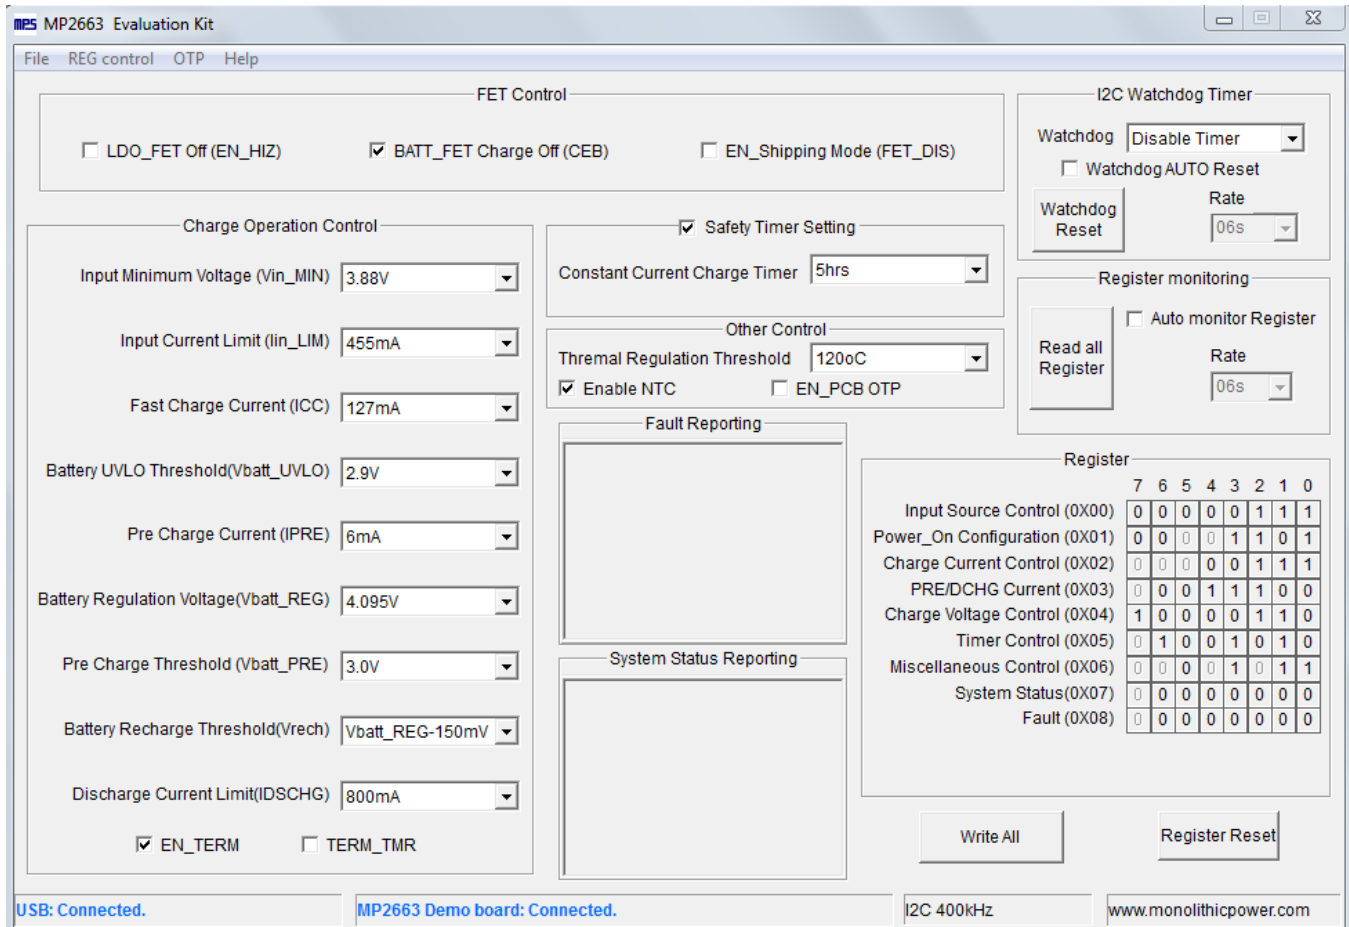

Figure 7: Appearance of USB and MP2663 EVB Board Show Connected
- If connection is successful, both the USB and MP2663 DEMO board statuses are "connected". (See Figure 7).
- 2. Click the "Read All Register" button to read the I²C register values and the default values are displayed (see Figure 7).